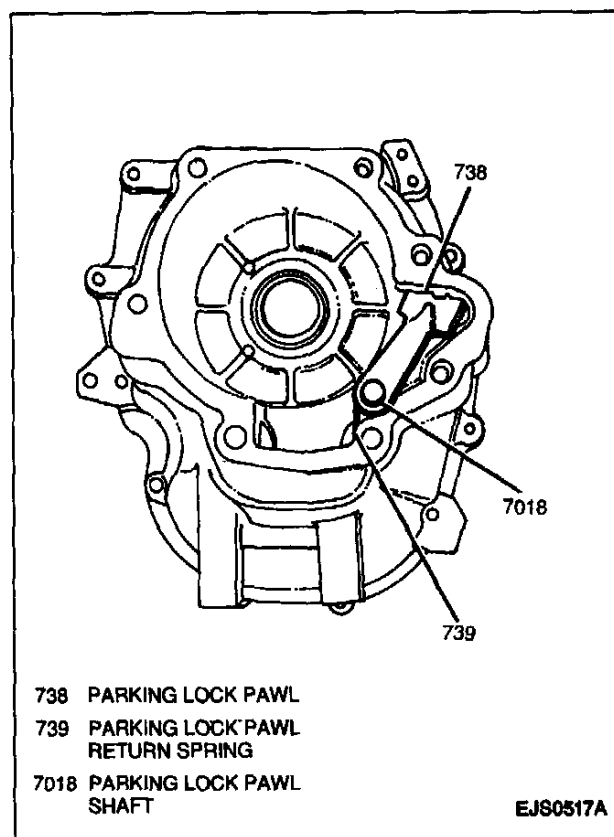

Figure 60—Parking Lock Pawl, Parking Lock Pawl Shaft and Parking Lock Pawl Return Spring
10. Parking lock pawl, parking lock pawl shaft and parking lock pawl return spring from transfer adapter case (Figure 60).
4. Parking lock pawl return spring, parking lock pawl shaft and parking lock pawl into transfer adapter case (Figure 60).